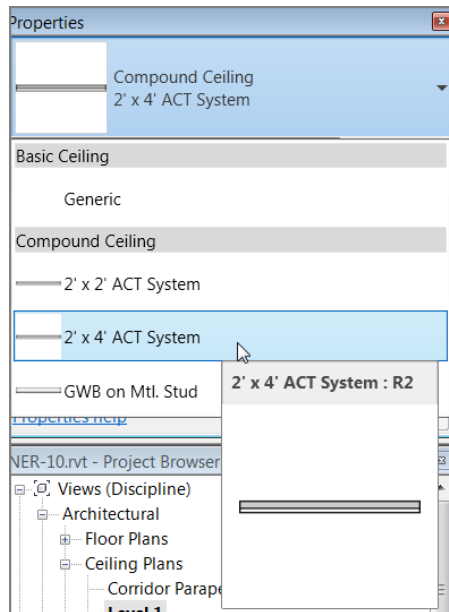

FIGURE 9.3 : The available ceiling types listed in the Type Selector
3. With the Ceiling command active, choose 2' x 4' ACT System (600mm x 1200mm Grid) from the Type Selector, as shown in Figure 9.3.